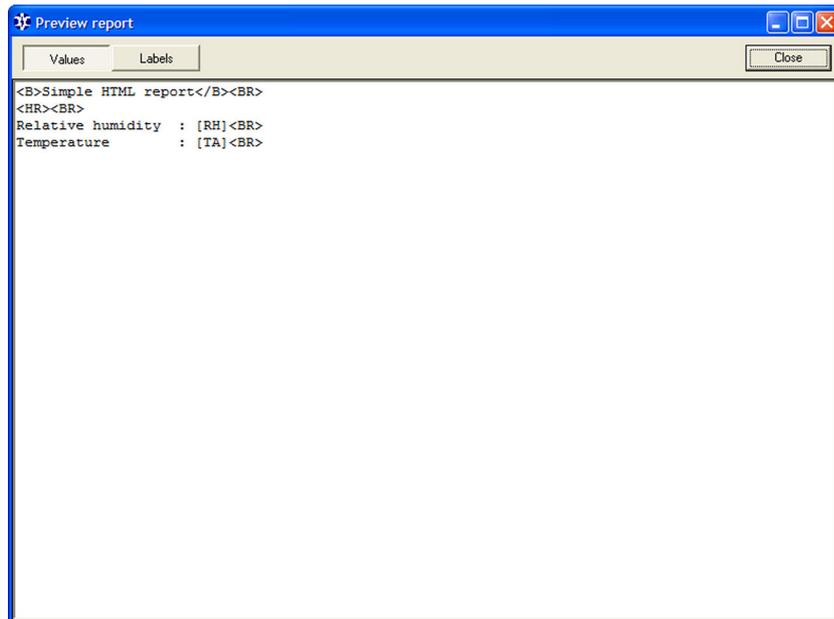

Figure 116 Custom HTML Report Preview
8. You can preview your report by selecting **Preview**. The **Preview report** window, shown in Figure 116 on page 258, provides two views of the report: one with example values inserted for the variables, and one with the QML logger variable names for the variables. With the variable names, you can ensure that you have added the correct variable to each point in the report.